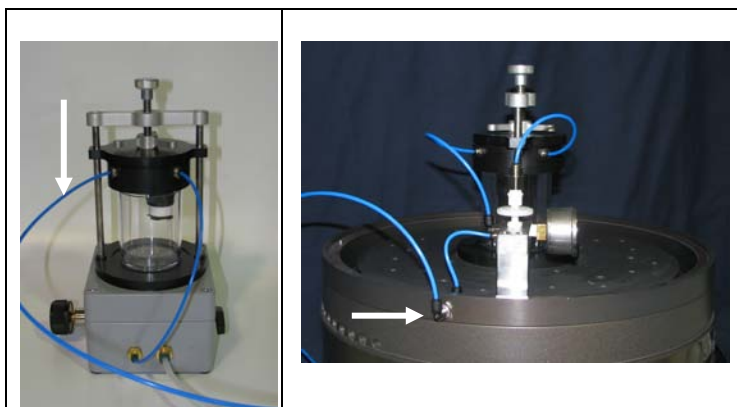

Figure 12. Connection from trap to LabRAM
- 9.3.3 Connect 1/8" poly tubing from trap to LabRAM. See Figure 12. See note above for details of relative location of components.